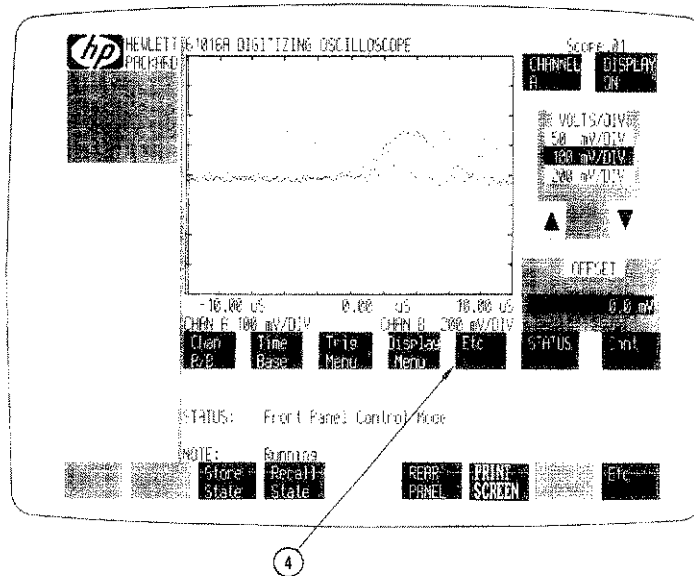

Figure 2-4. Advancing from Level 2 to Level 3
Step 4. The Chan A/B Menu now appears in the Oscilloscope Status/Menu field of the Interactive Instrument Window (see Figure 2-4). Now, look at the bottom of the Oscilloscope Status/Menu field. That field has two interactive menu keys labeled STATUS and Cont (Continue). When STATUS and Cont are both displayed, more than one menu is available to you in that particular Scopekey group. Selecting Cont steps to the next menu in the selected group in essentially the same way that Etc steps through Scopekey levels.